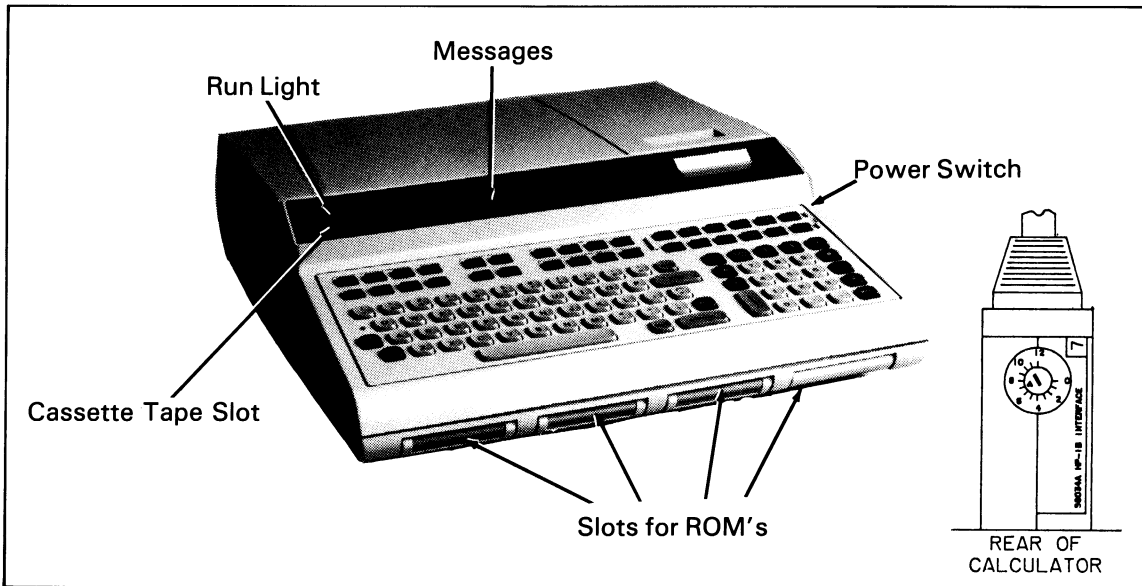

Figure 4-19. HP 9825A Calculator
- c. Check the rotary switch setting (Figure 4-19) on the HP-IB interface cable. The pointer should be on "7". If the pointer is at some other setting, use a small screwdriver to set it on "7".